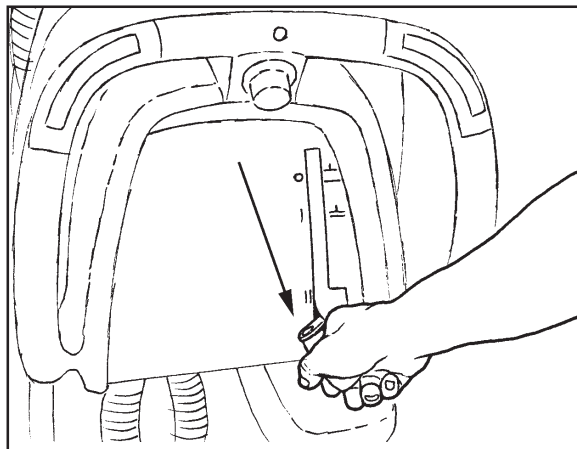

Figure 25
1. To lower the squeegee and start the vacuum motor, move the squeegee lever to the right and down (See figure 25).